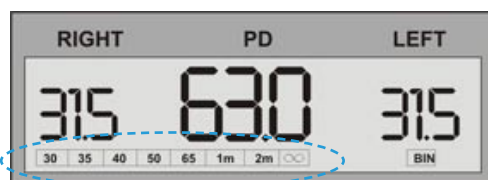

Fig.12
3.7 Conversion of Pupillary Distance at Different Optic Distances (as shown in Fig. 12)